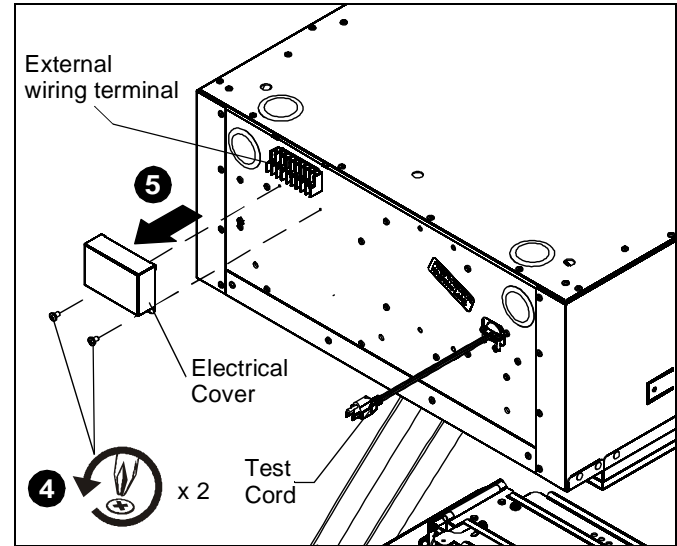
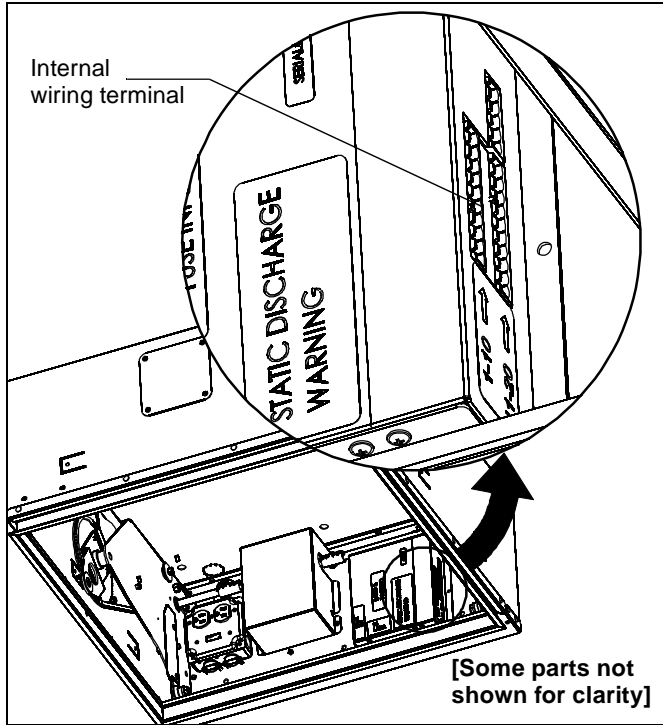

Figure 2
Figure 4
4. Remove and save two screws holding side electrical cover in place. (See Figure 2)
5. Remove electrical cover. (See Figure 2)
7. Plug in the SL236 test cord. (See Figure 2)
NOTE: (See Figure 2) for location of external wiring terminal. (See Figure 4) for location of internal wiring terminal.